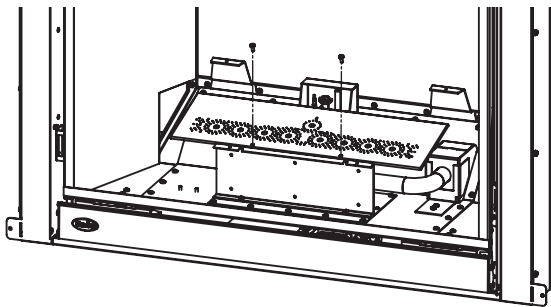

Figure 11. Removing Burner
Step 3: Unscrew the burner pan using a T20 screwdriver then rotate it clockwise and pull it out of the venturi box (Figure 11).